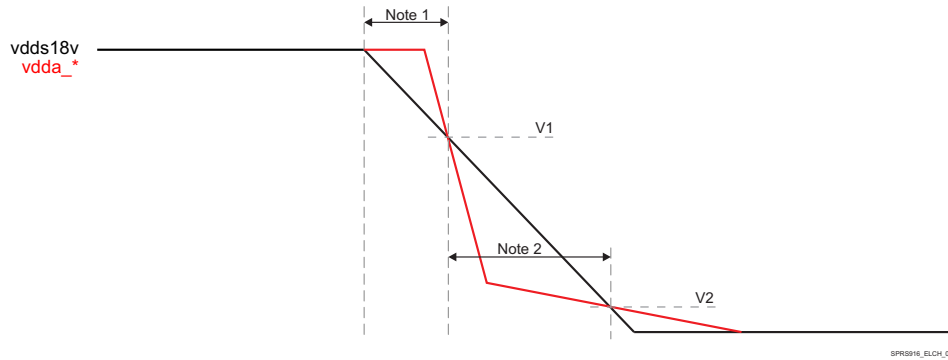

Figure 5-7. vdds18v and vdda_* Discharge Relationship⁽³⁾
(3) General timing diagram items:
- (4) porz signals must be asserted low for 100 μ s min to ensure SoC is set to a safe functional state before any voltage begins to ramp down.
- (5) vddshv* domains supplied by 3.3 V:
- must not exceed vdds18v by more than 2 V during ramp down, see Figure 5-7 “vdds18v and vdda_* Discharge Relationship”.
- (6) vddshv* domains supplied by 1.8 V:
- (7) vddshv8 domain:
- (8) RTC domains (vddshv5, vdd_rtc, and vdda_rtc):
- (9) vdda_* domains:
- must satisfy the vdds18v and vdda_* Discharge Relationship (see Figure 5-7) if vdda_* disable point is later or discharge rate is slower than vdds18v.
- (10) vdda33v_usb* domains:
- (11) vdd_dspeve, vdd_gpu, vdd_iva, vdd_mpu domains can ramp down before or concurrently with vdd.
- (12) vdd can ramp down concurrently or after with vdd_dspeve, vdd_gpu, vdd_iva, vdd_mpu domains.
- (13) vdds_dds* domains: